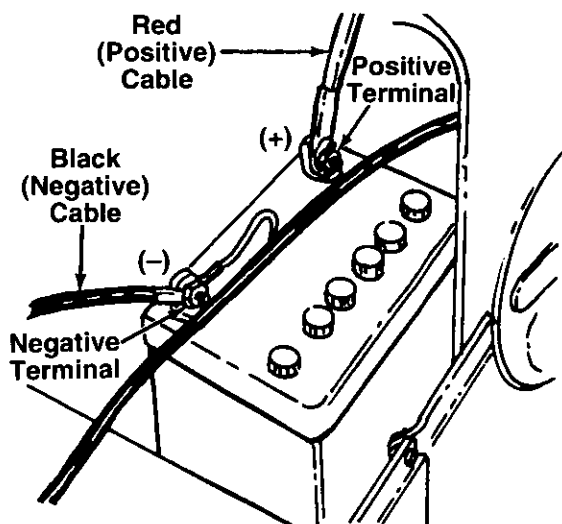

FIGURE 5.
3. Attach the positive cable (heavy red wire) to the positive battery terminal (+) with hex bolt and hex nut provided with battery. See figure 5.